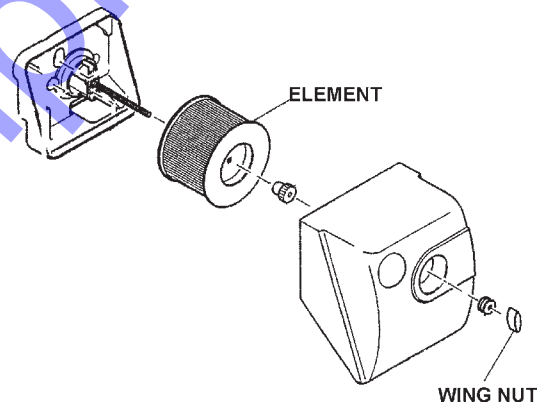

Figure 15. Engine Air Cleaner
1. Loosen the wing nut and detach the cover of the air cleaner shown in Figure 15.
2. Tap the element (Figure 15) several times on a hard surface to remove dirt, or blow compressed air, not exceeding 30 psi (207 kPa, 2.1 kgf/cm2), through the element side. **NEVER** wash the element with detergent because the element is oil-soaked type. Replace the element when the output decreases or bad exhaust color is noticed.